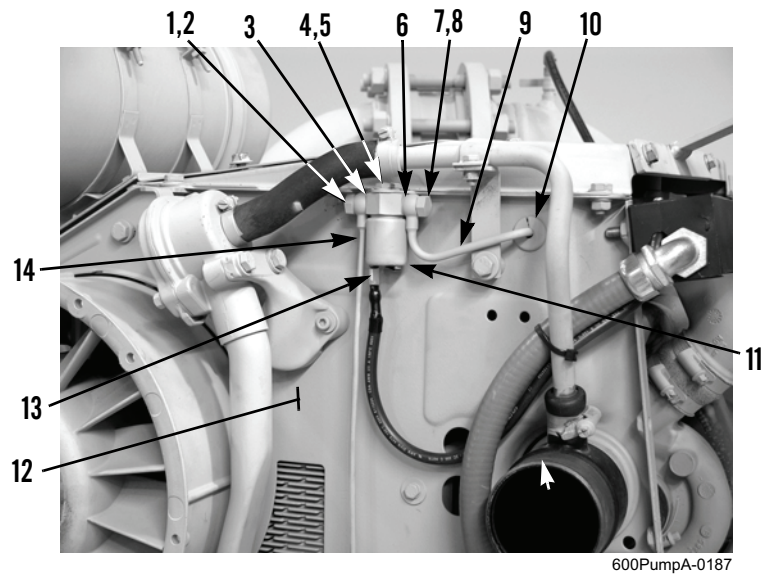
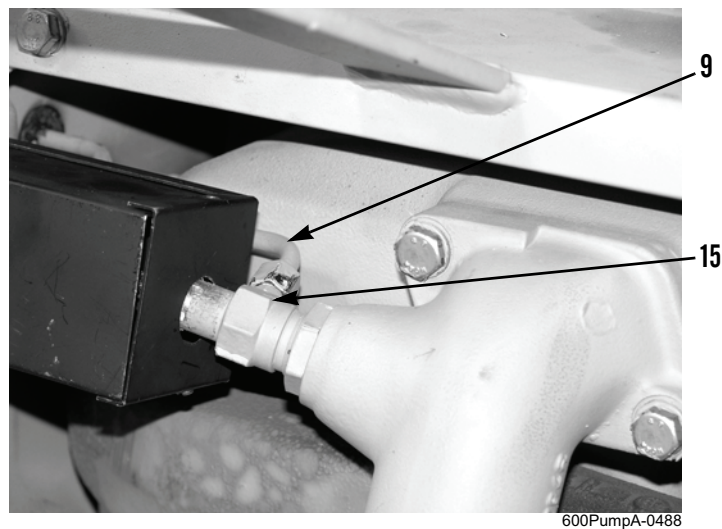

Figure 1. Solenoid Valve.
Figure 2. Fuel Line at Flame Glow Plug.
2. Disconnect wire (Figure 1, Item 13) from solenoid valve (Figure 1, Item 11).
3. Remove fluid passage bolt (Figure 1, Item 1), sealing washer (Figure 1, Item 2), fuel line (Figure 1, Item 14), and sealing washer (Figure 1, Item 3) from solenoid valve (Figure 1, Item 11). Discard sealing washers.
4. Remove fluid passage bolt (Figure 1, Item 7), sealing washer (Figure 1, Item 8), fuel line (Figure 1, Item 9), and sealing washer (Figure 1, Item 6) from solenoid valve (Figure 1, Item 11). Discard sealing washers.
5. Remove two bolts (Figure 1, Item 4), lockwashers (Figure 1, Item 5), and solenoid valve (Figure 1, Item 11) from front air duct wall (Figure 1, Item 12). Discard lockwashers.
6. Disconnect fuel line (Figure 2, Item 9) from flame glow plug (Figure 2, Item 15) and remove fuel line and grommet (Figure 1, Item 10) from front air duct wall (Figure 1, Item 12).
2. Position fuel line (Figure 2, Item 9) through front air duct wall (Figure 1, Item 12) and connect fuel line to flame glow plug (Figure 2, Item 15). Seat grommet (Figure 1, Item 10) in front air duct wall.